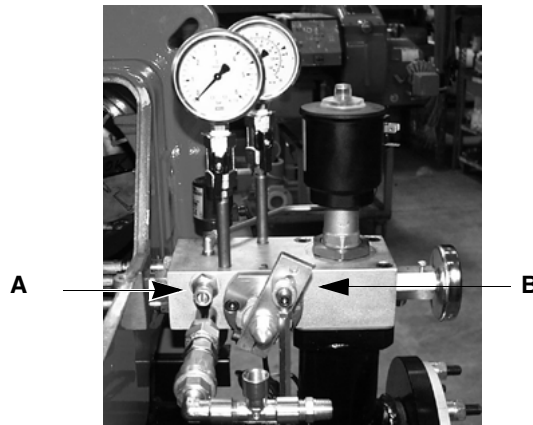

Fig. 35
- Remove and clean the compressed air regulator **A** in Fig. 35.
- Remove and clean the oil regulator **B** in Fig. 35.